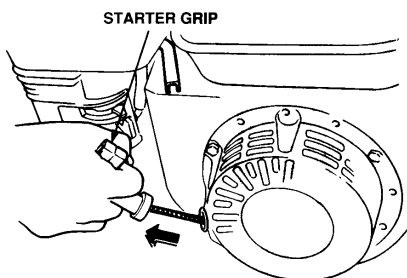

Figure 14. Starter Grip
- Grasp the starter grip (Figure 14) and slowly pull it out. The resistance becomes the hardest at a certain position, corresponding to the compression point. Pull the starter grip briskly and smoothly for starting.